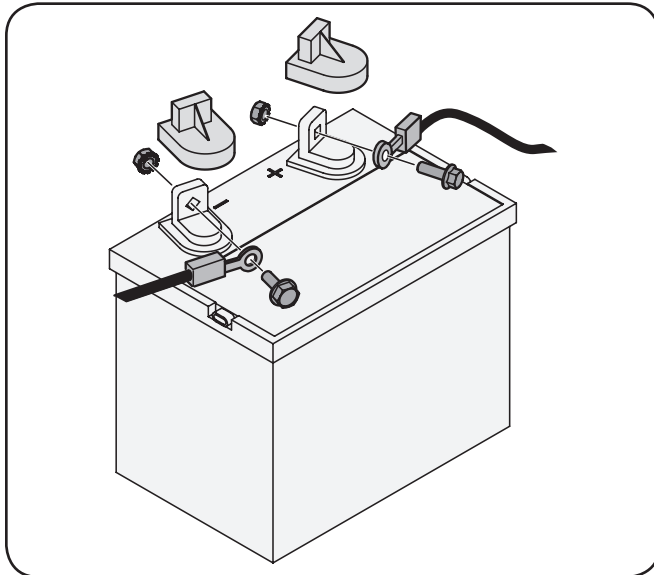

Figure 3-3
1. Remove the plastic cover, if present, from the positive battery terminal and attach the red cable to the positive (+) battery terminal with the bolt and hex nut. See Fig. 3-3.
2. Remove the plastic cover, if present, from the negative (-) battery terminal and attach the black cable to the negative (-) battery terminal with the bolt and hex nut. See Fig. 3-3.